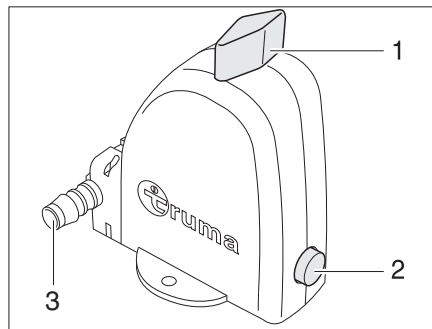

Fig. 340 Safety/drainage valve of the boiler - Operation position
The boiler is equipped with a safety/drainage valve (Fig. 340). The safety/drainage valve prevents water in the boiler from freezing, when there is frost and the heater is not switched on.
- ▷ The drainage neck (Fig. 340,3) of the safety/drainage valve has to be free of dirt (e.g. leaves, ice) at all times.
- Turn the knob (Fig. 340,1) 90° lengthwise to the safety/drainage valve. The pushbutton (Fig. 340,2) jumps out. The boiler is drained to the outside by the drainage neck (Fig. 340,3) of the safety/drainage valve.
- Turn the knob (Fig. 340,1) 90° crosswise to the safety/drainage valve.
- Push in the pushbutton (Fig. 340,2).